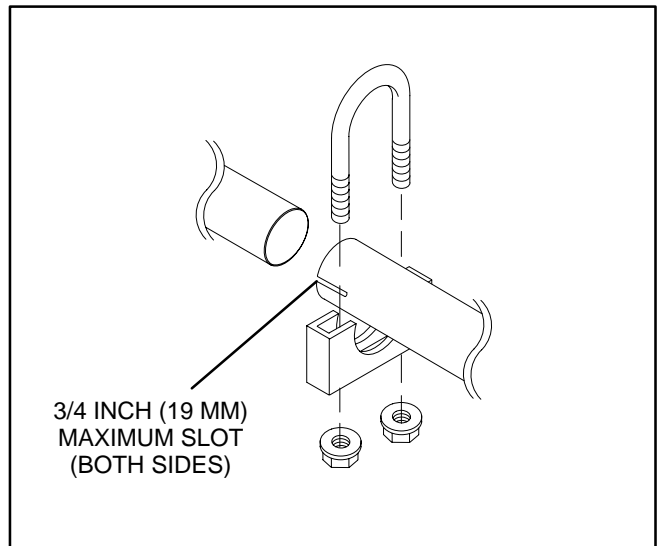

FIGURE 6. EXHAUST TAILPIPE CONNECTIONS
3. Use U-bolt muffler clamps (available from Onan) to connect sections of tailpipe. Overlapping pipe should be slotted (Figure 6).